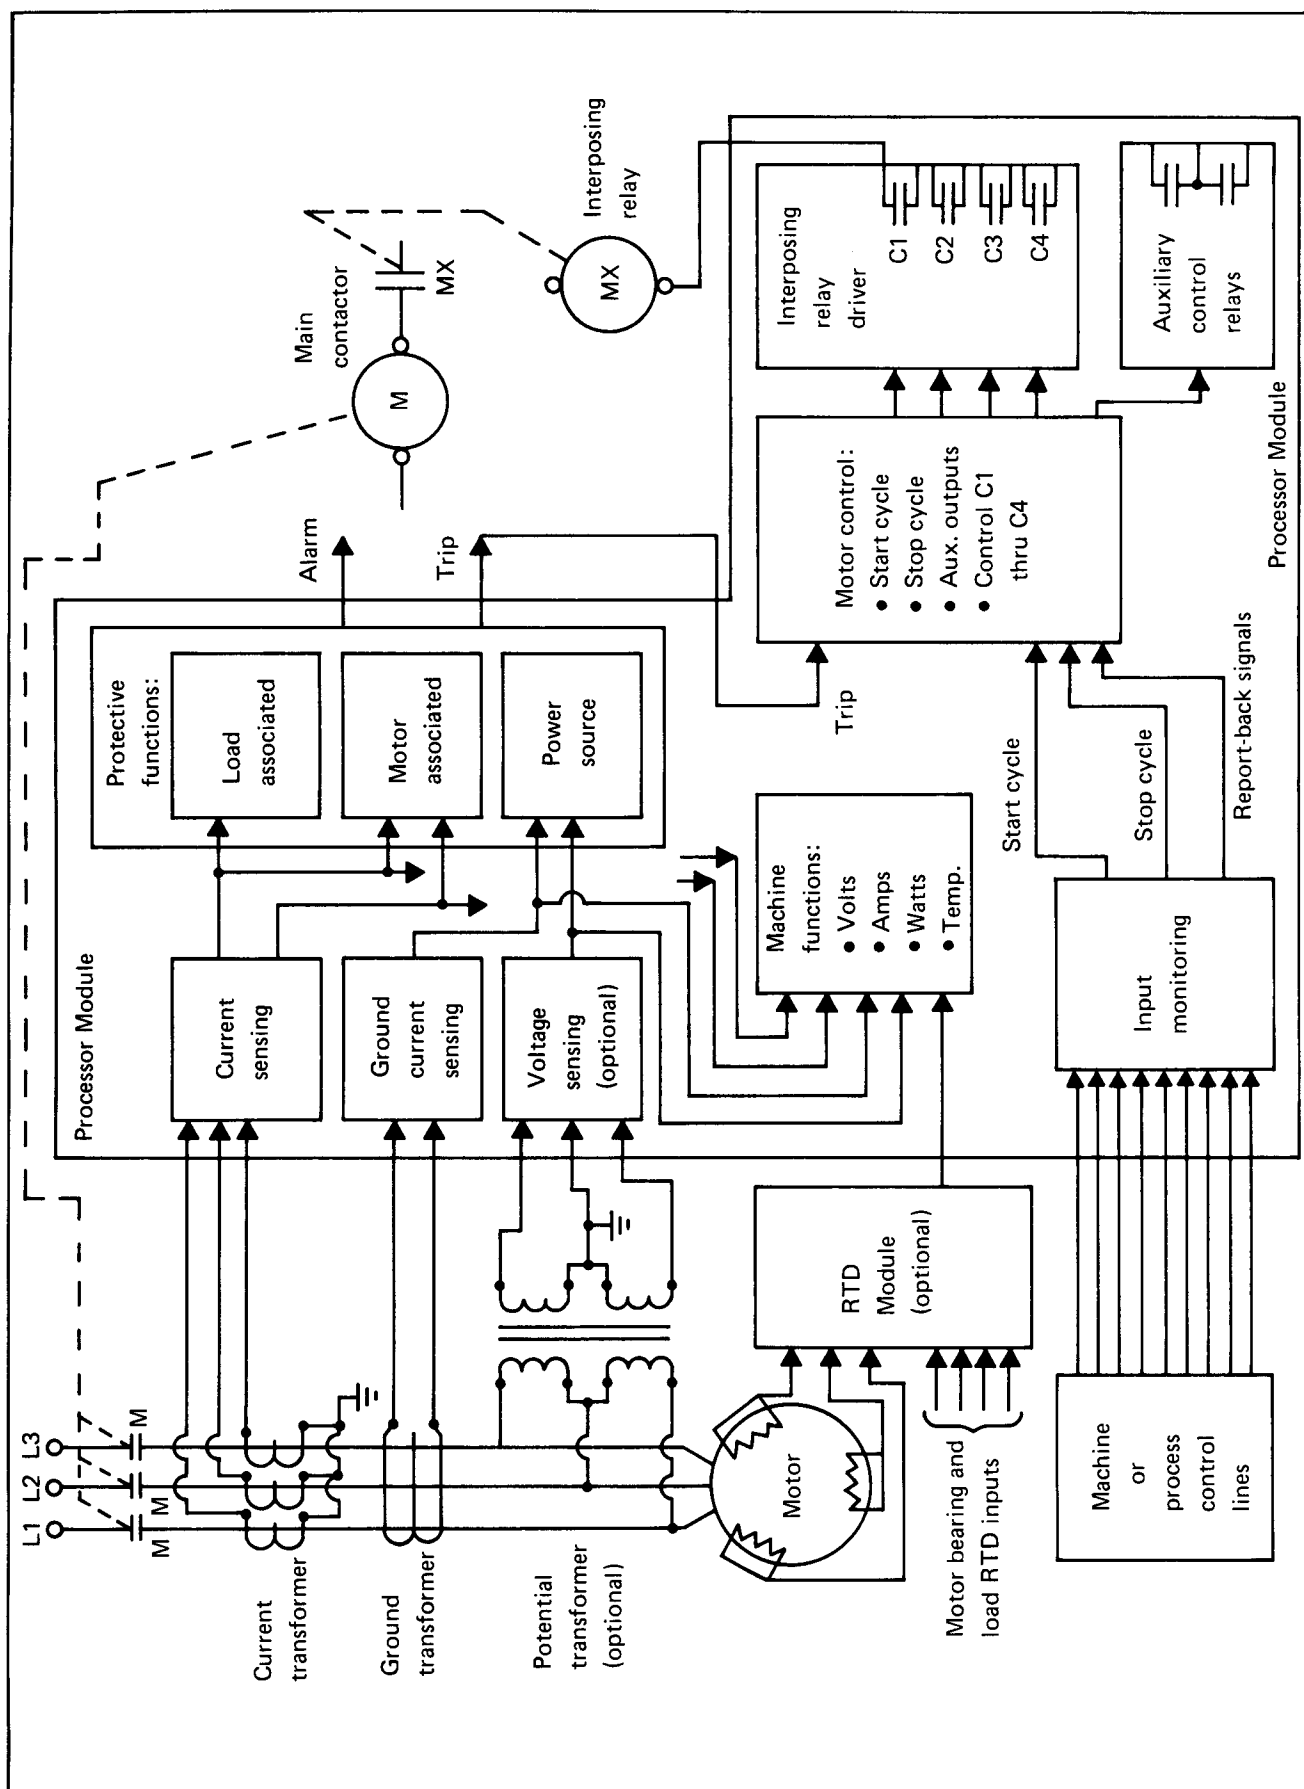

Figure 2.1 — Functional Block
2.1 Sensing Inputs — The IQ-2000 receives information about motor current, line voltage and ground fault current as well as control inputs such as motor starting and stopping commands. (See Figure 2.1.) Optionally, RTD inputs supply temperature data. The motor current and control inputs are described in more detail in the following paragraphs.
2.2 Protective Functions — Protective functions utilize motor conditions such as current and temperature on an on-going basis and first initiate an alarm condition, where appropriate, and finally a trip condition. (See Figure 2.1.) These conditions perform the following functions: